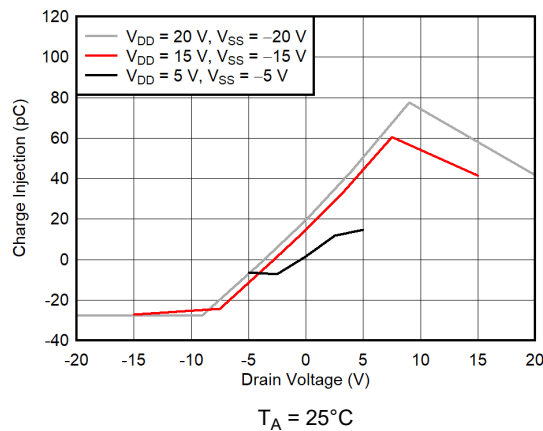

Figure 9-2. Charge Injection vs Drain Voltage
The low on and off leakage currents of TMUX7234 and ultra-low charge injection performance make this device ideal for implementing high precision industrial systems. The TMUX7234 contains specialized architecture to reduce charge injection on the Drain side (D) (See Section 8.3.6 for more details). Figure 9-2 shows the plot for the charge injection versus source voltage for the TMUX7234.